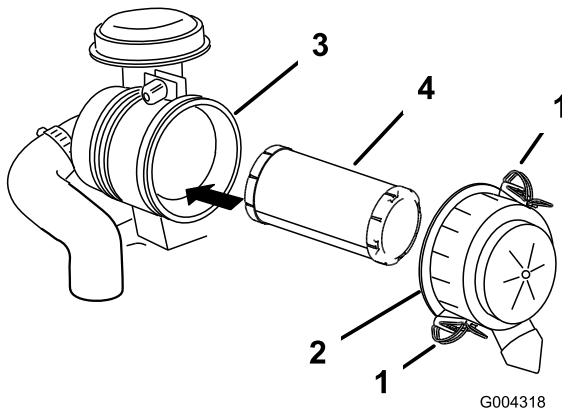

Figure 34
3. Release the latches on the air cleaner and pull the air cleaner cover off of the air cleaner body (Figure 34).
5. Gently slide the air filter out of the air cleaner body (Figure 34). Avoid knocking the filter into the side of the body.
2. Carefully slide the air filter into the body (Figure 34).
3. Install the air cleaner cover with the side indicated as UP facing up and secure the latches (Figure 34).